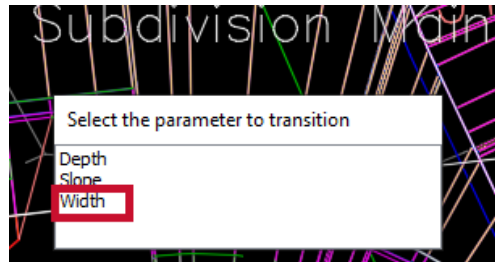

Figure 3.15 – Select Width for our transition prompt
4. After selecting the subassembly we wish to apply the transition to, we'll be prompted to specify the parameter to transition (refer to *Figure 3.15*). In our case, we'll select the **Width** parameter.